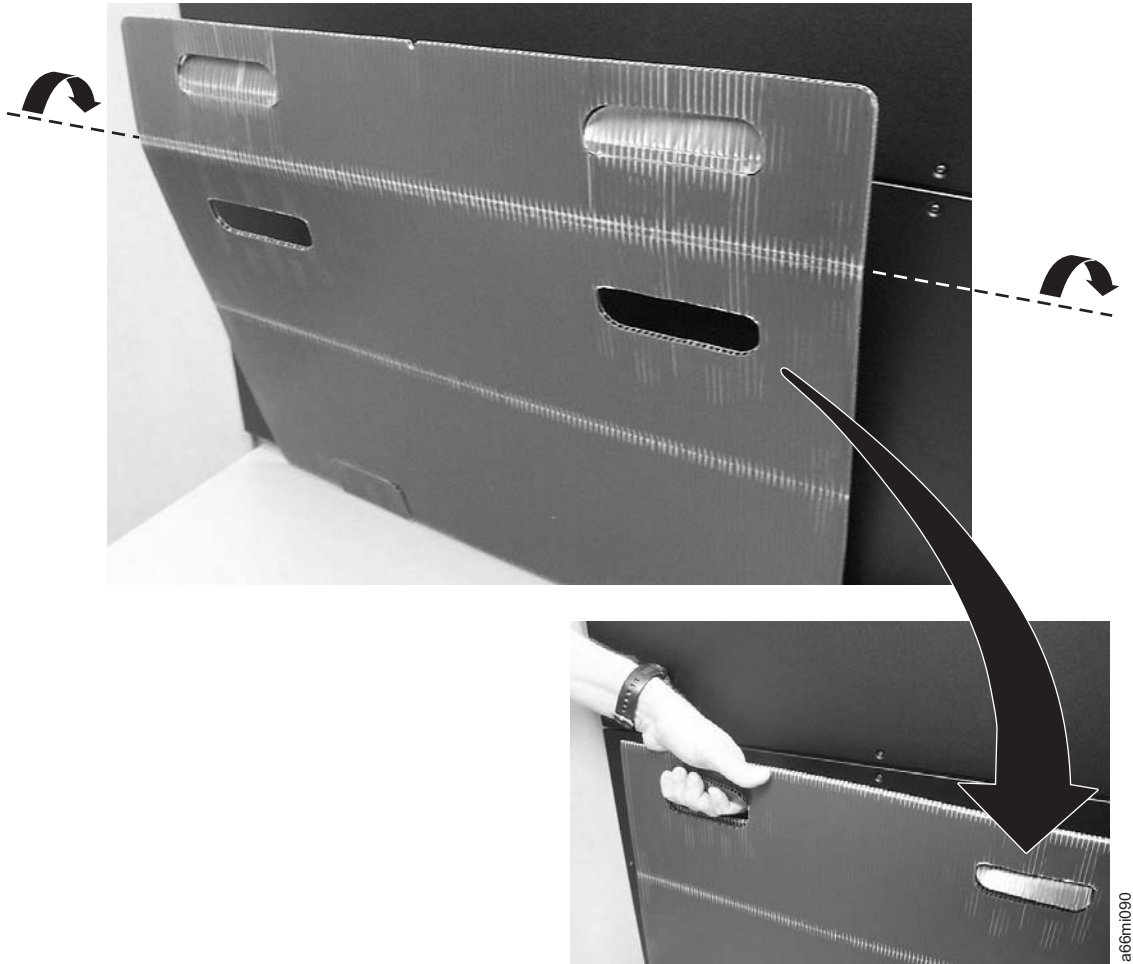

Figure 3-23. Sling handles folded properly
2. With a person on each side of the module, lift the module with the sling provided (see Figure 3-23 on page 3-22).